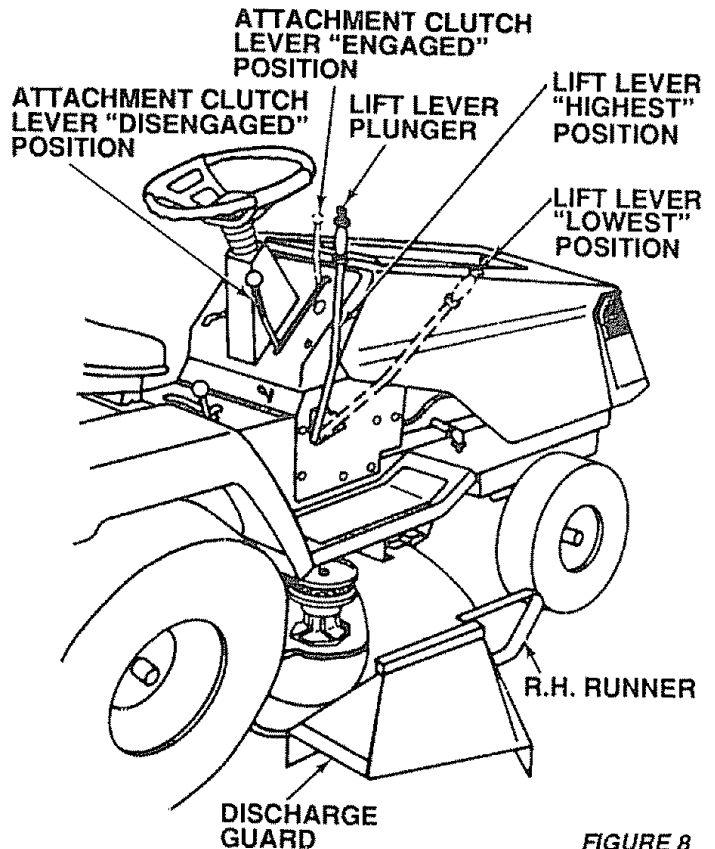

FIGURE 8
- a. Depress lift lever plunger and move the attachment lift lever to the highest position. See Fig. 8.
- Move throttle lever to half throttle and slowly move attachment clutch lever to engaged position, Fig. 8.
- Use the runner on the R.H. side as a guide; the blade cuts approximately an inch (2.54 cm) outside the runner (Fig. 8).